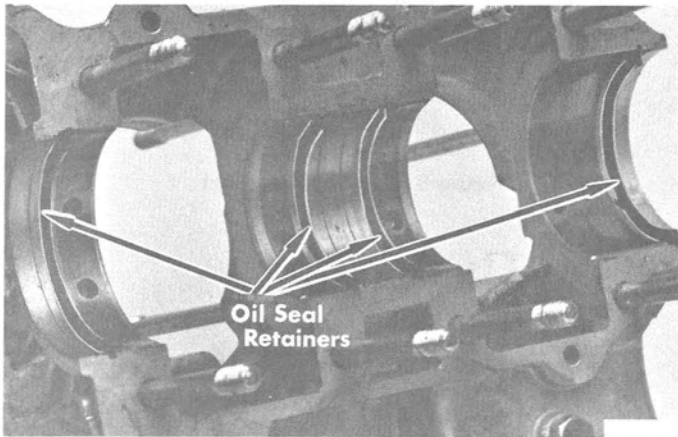

Figure 6. Oil Seal Retainers
2. Place oil seal retainers in grooves of upper crankcase half. (Figure 6)